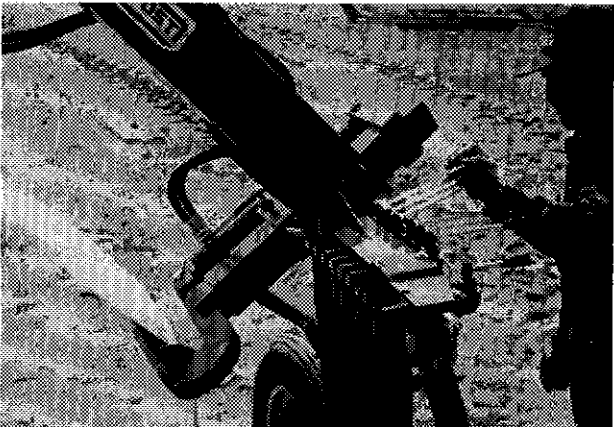
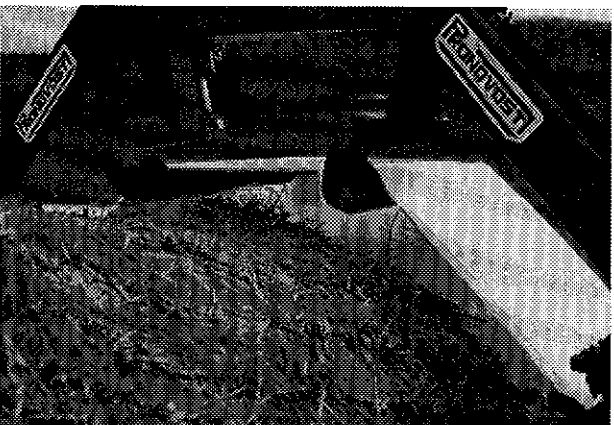

Figure 31
Figure 32
- 2) Stretch the tube by operating the three valves **SIMULTANEOUSLY** (Fig. 31) to obtain a **CLEARANCE OF APPROXIMATELY 2" to 3"** between the bale and the tube (Fig. 32). Readjust stretcher arms individually if necessary.